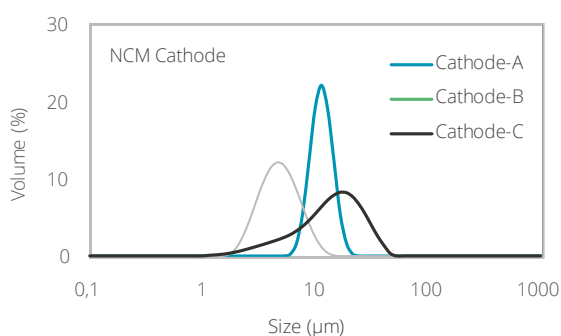
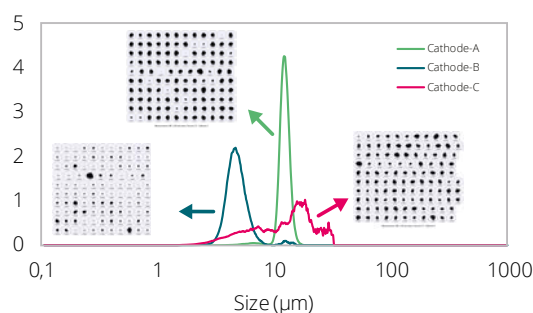
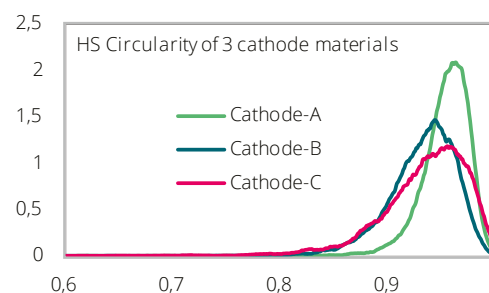

Figure 1. Particle size distribution of three batches of NCM811 cathode materials synthesized with different processing parameters.
Figure 6.
Figure 7.
Example Cathode Materials Circular Equivalent (CE) size distribution of three NCM cathode materials, as obtained from Morphologi 4 (Figure 6). These are the same samples as those measured with the Mastersizer 3000 in Figure 1. Circularity for these samples is compared in Figure 7. Circularity index 1 corresponds to perfect spheres and smaller values to larger deviation from circularity. A narrow distribution in circularity means uniform shape particles, whereas broad distribution represents large variance in particle shapes. Cathode A has circular particles, whereas B and C are irregularly shaped with large shape variations.
Composition and impurities analysis on five samples of $\text{LiFe}_x\text{Mn}_{1-x}\text{PO}_4$ measured on the Epsilon 4 is shown in the table below. Measured Mn composition (Figure 7) shows a straight-line calibration with Target Mn composition in these samples.